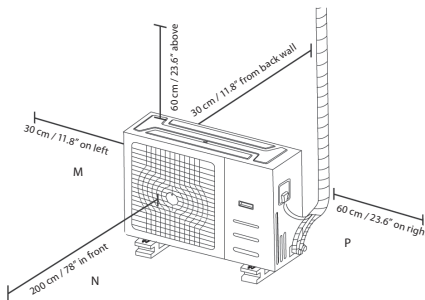

Fig. 2.7
**NOTE:** The minimum distance between the outdoor unit and walls described in the installation guide does not apply to airtight rooms. Be sure to keep the unit unobstructed in at least two of the three directions (M, N, P) (See Fig. 2.7).